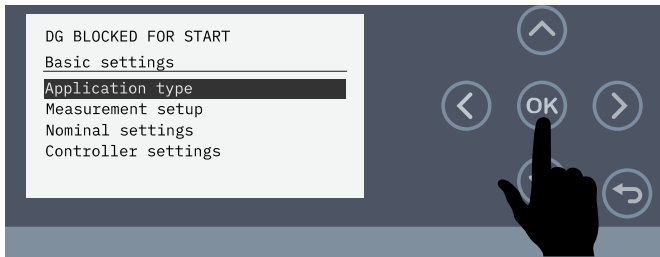

Figure 87. Select Application Type
4. Make sure **Application Type** is highlighted (Figure 87), then press the OK button.